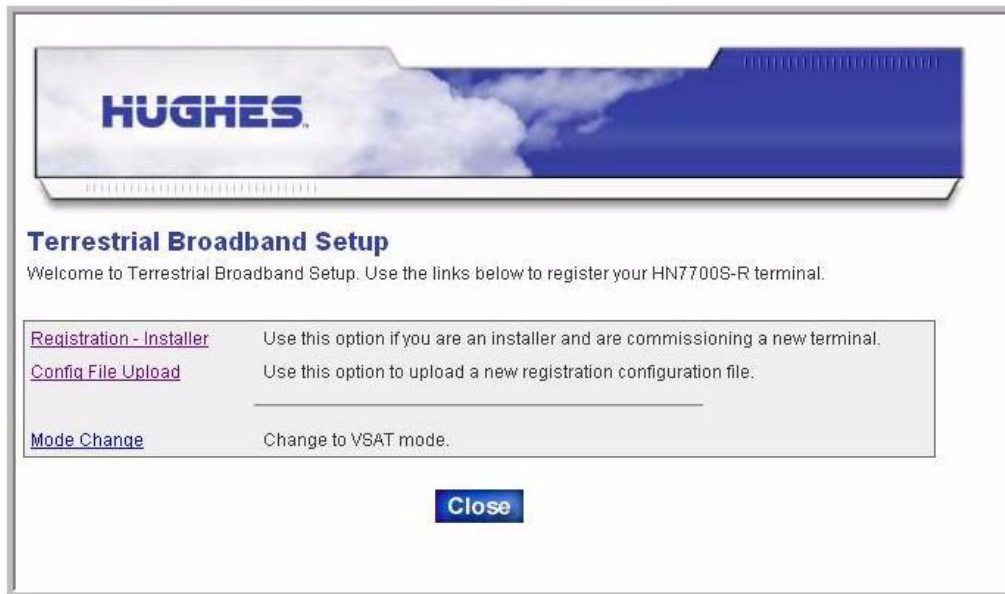

Figure 11: Terrestrial Broadband Setup page
9. The Terrestrial Broadband Setup screen displays as shown in Figure 11 on page 23.
Figure 11 shows the Terrestrial Broadband Setup page.